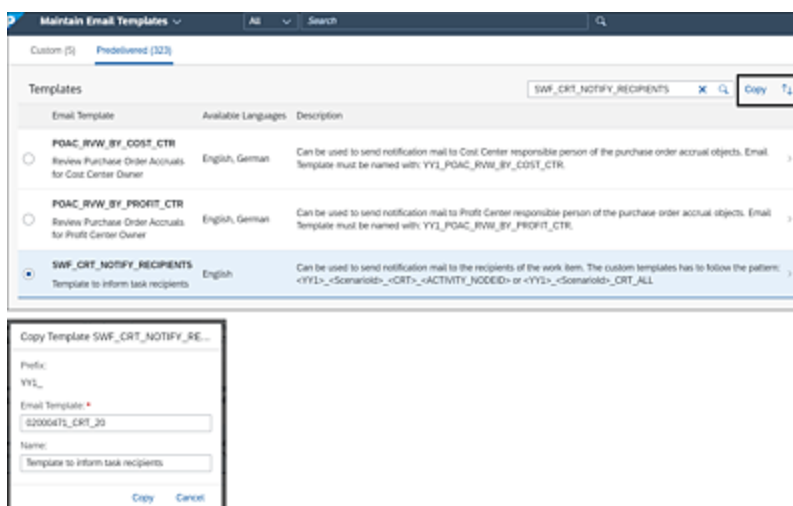

Figure 16.4 Copy Standard Email Template
1. Go to the **Predelivered** (templates) tab in the Maintain Email Templates app, and search for the standard template. As shown in Figure 16.4, choose the standard template, click on the **Copy** button, and provide the template name per the naming standards provided in Section 16.3.